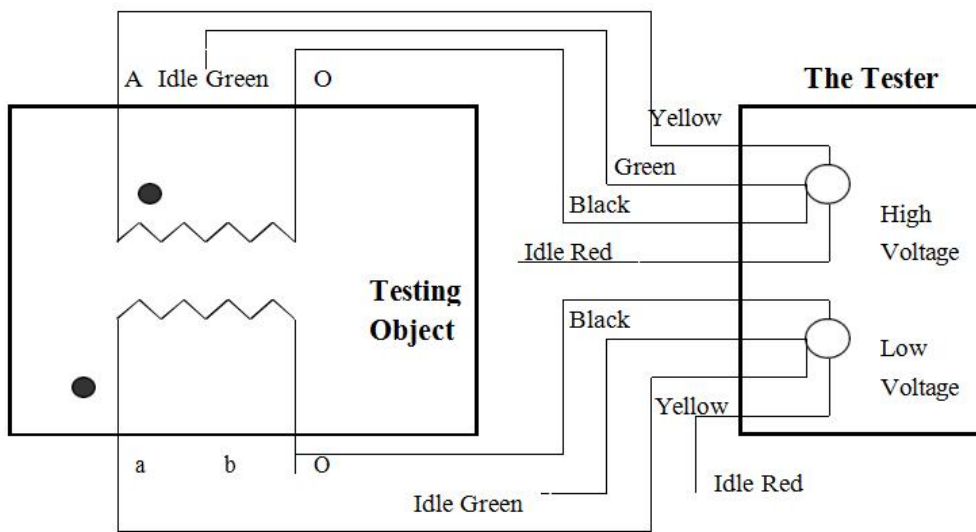

Figure 13
- 3、Single phase transformer, voltage combination  $525/\sqrt{3} \pm 4 \times 2.50\%/20$ , wired according to Figure 13